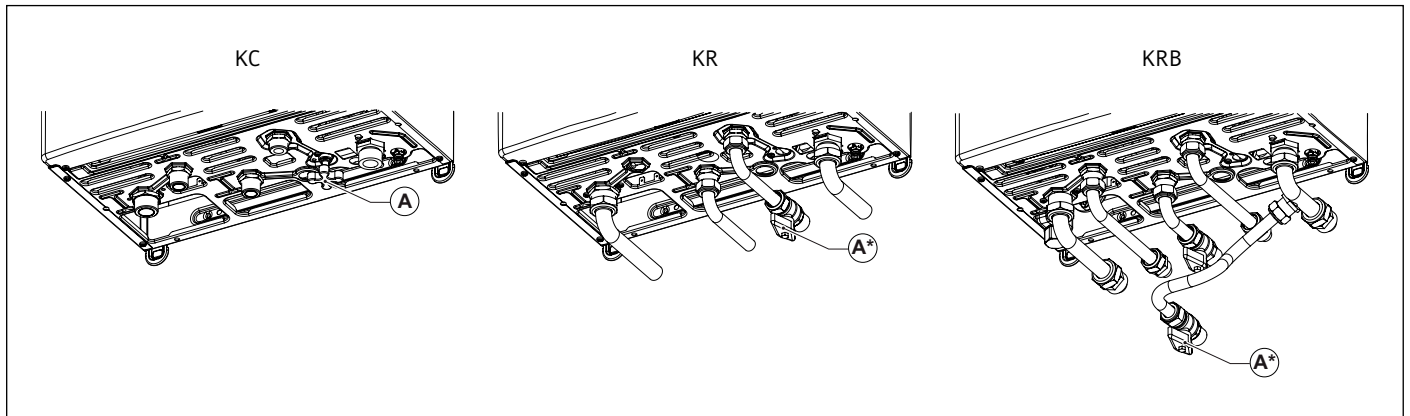

Fig. 2 Filler cock - (A*) option
Fill the system by working on filler cock (A) (see Fig. 2 Filler cock - (A*) option).